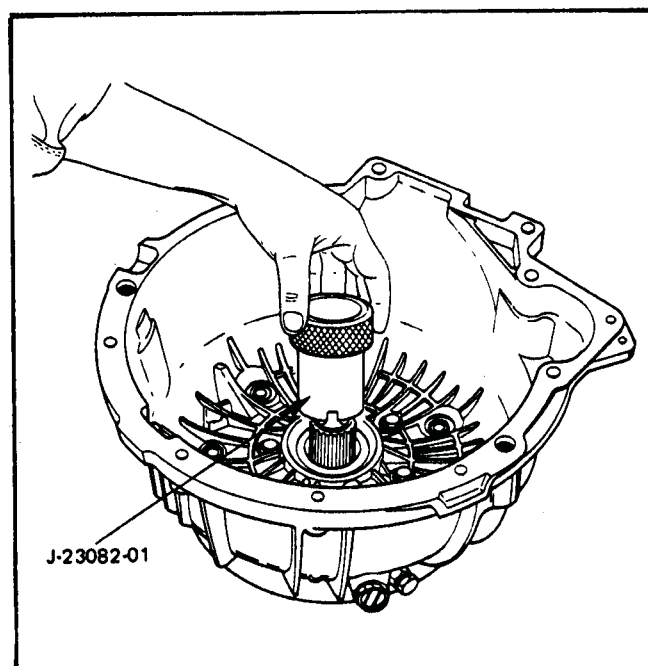

Figure 56
13. Ensure free rotation of pump gears using pump rotation tool J-23082-01, as shown in Figure 56.